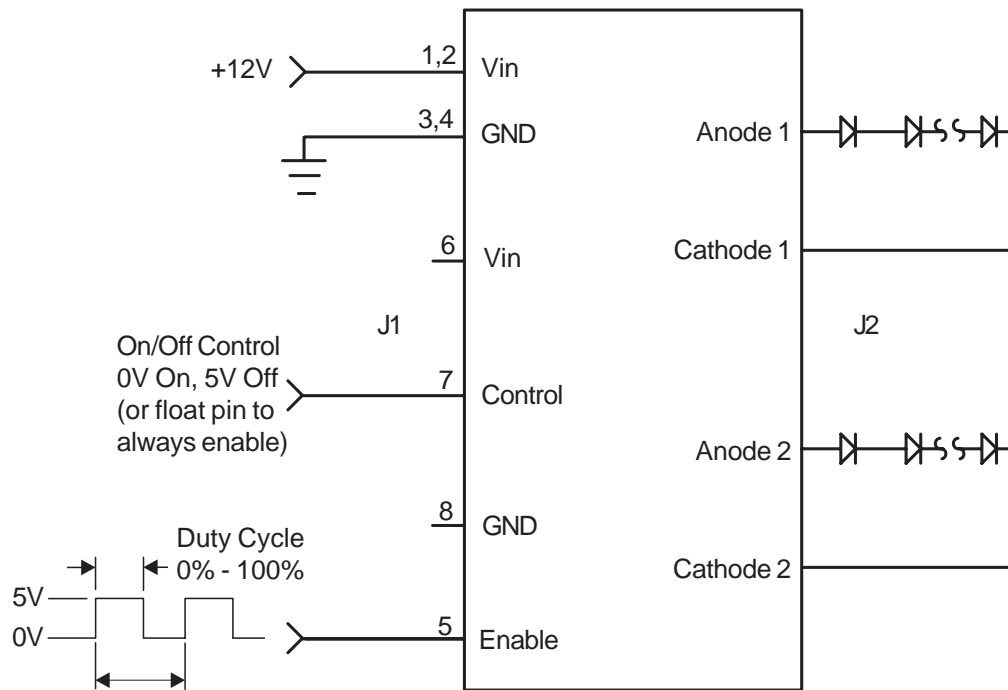

Figure 2
- OPERATION: External PWM configuration as shown in Figure 2 allows the user to control display brightness with an externally generated PWM signal. The user is responsible to provide the PWM signal. A dimming ratio up to 20000:1 is possible with this configuration.